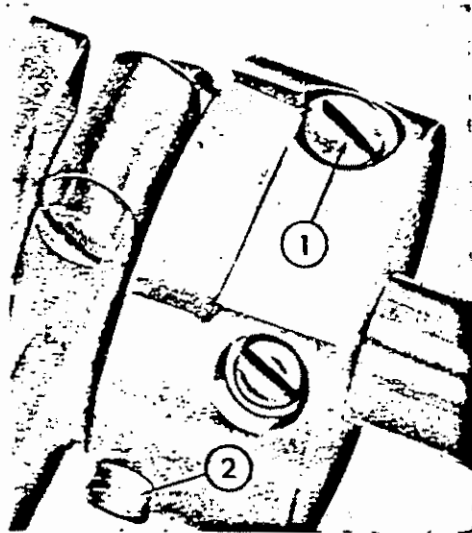

Fig. 18
## 9. Regulating the stitch length (See Fig. 18)
Rotate the hand wheel and loosen the set screw ② Fig. 18. If the eccentric amount adjuster screw ① is turned to left, the stitches will be longer and if it's turned to right, the stitches will be shorter.